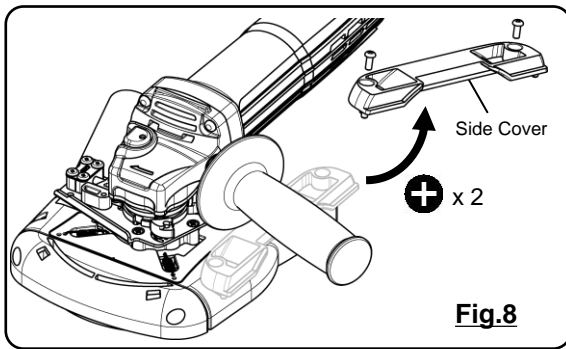

Fig.8
7. If the Handle comes in contact, detach the Side Cover from [a] Main Unit. (fig.8)